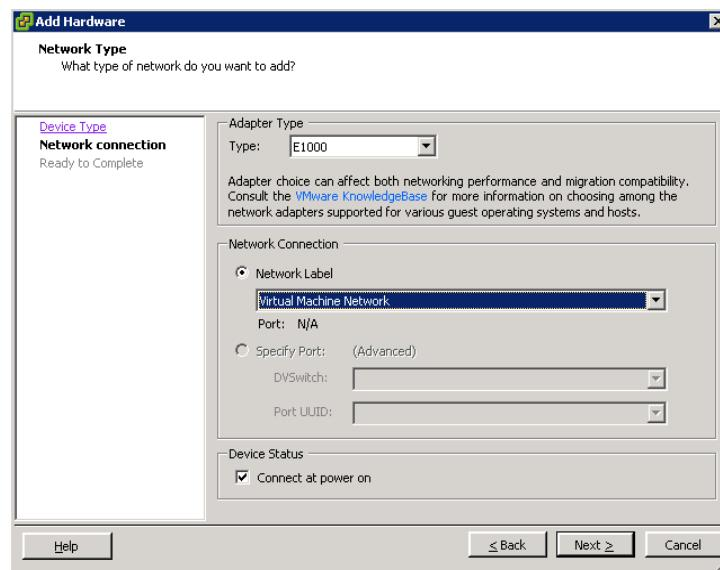

Figure 5-34. Add Hardware—Network Connection
8. Select the adapter type and network connection. For information about these options, refer to the VMware documentation. In this example, accept the default setting for adapter type, select **Network Label**, **Virtual Machine Network**, and then click **Next** (Figure 5-34).